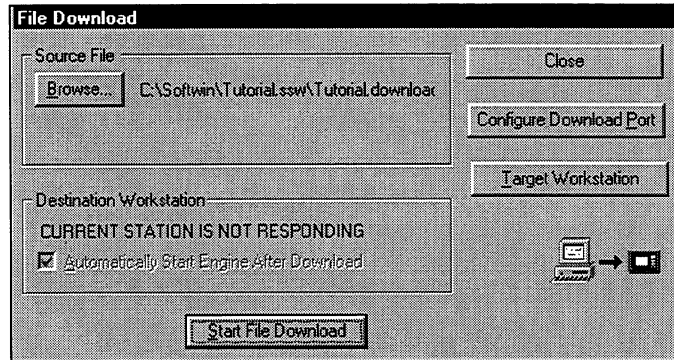

Figure 4-18. File Download Dialog Bo
1. Click the Download button from the toolbar or select the Download command on the Tools menu to access the File Download dialog box, as shown in Figure 4-18. The factory defaults should work with all new units and demo units.